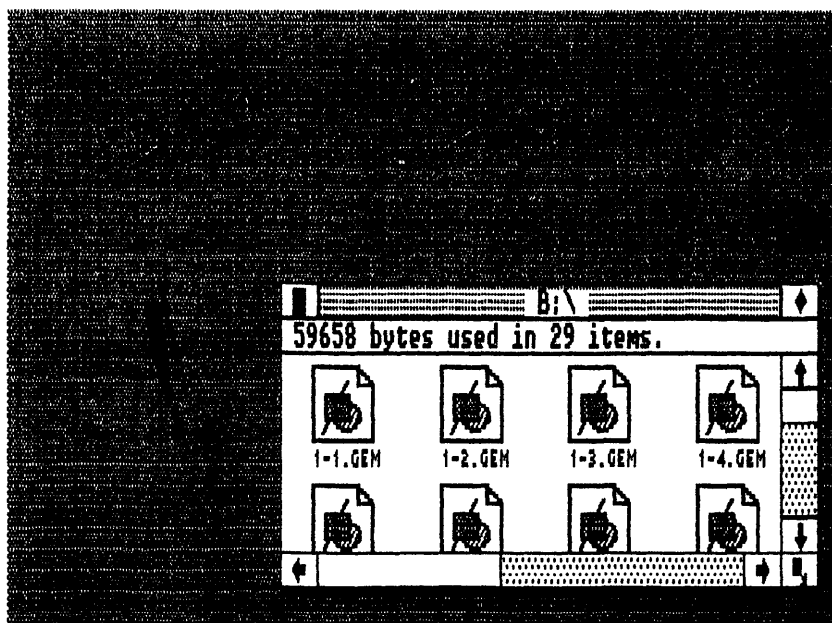

Fig. 1-7. Clicking in the Close Box on the active A:\ window removes that window from the desktop.
- ☐ Click on the Close Box on the Title Bar to close a window (Fig. 1-7).